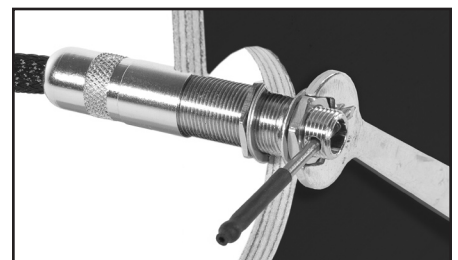

Figure 11d – Tighten the jack
4. Place the 12mm wrench on the retaining nut. Insert the jack-tightening pin through the cross-drilled hole in the threads of the jack. Hold the jack in position with the pin and use the 12mm wrench to firmly tighten the retaining nut (*see figure 11d*).